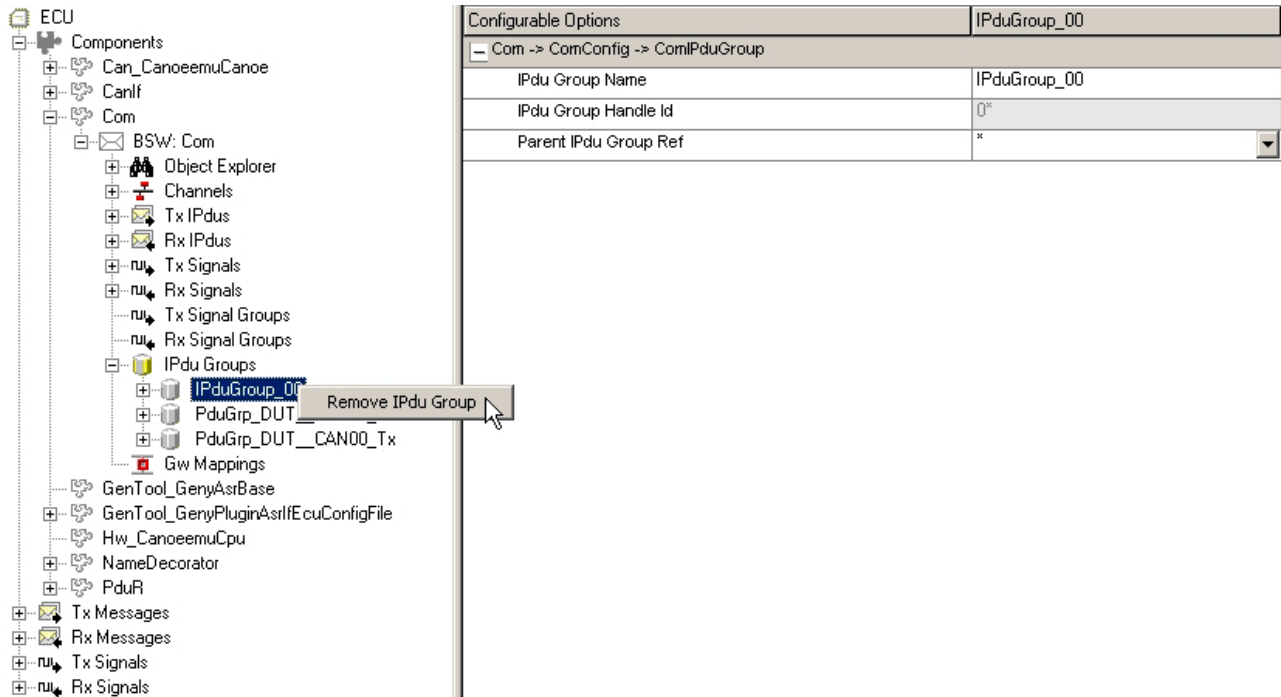

Figure 3-3 Removing an I-Pdu Group
- > Remove an I-PDU group by right-clicking on the I-PDU group and selecting “Remove Ipdu Group” as shown in Figure 3-3.